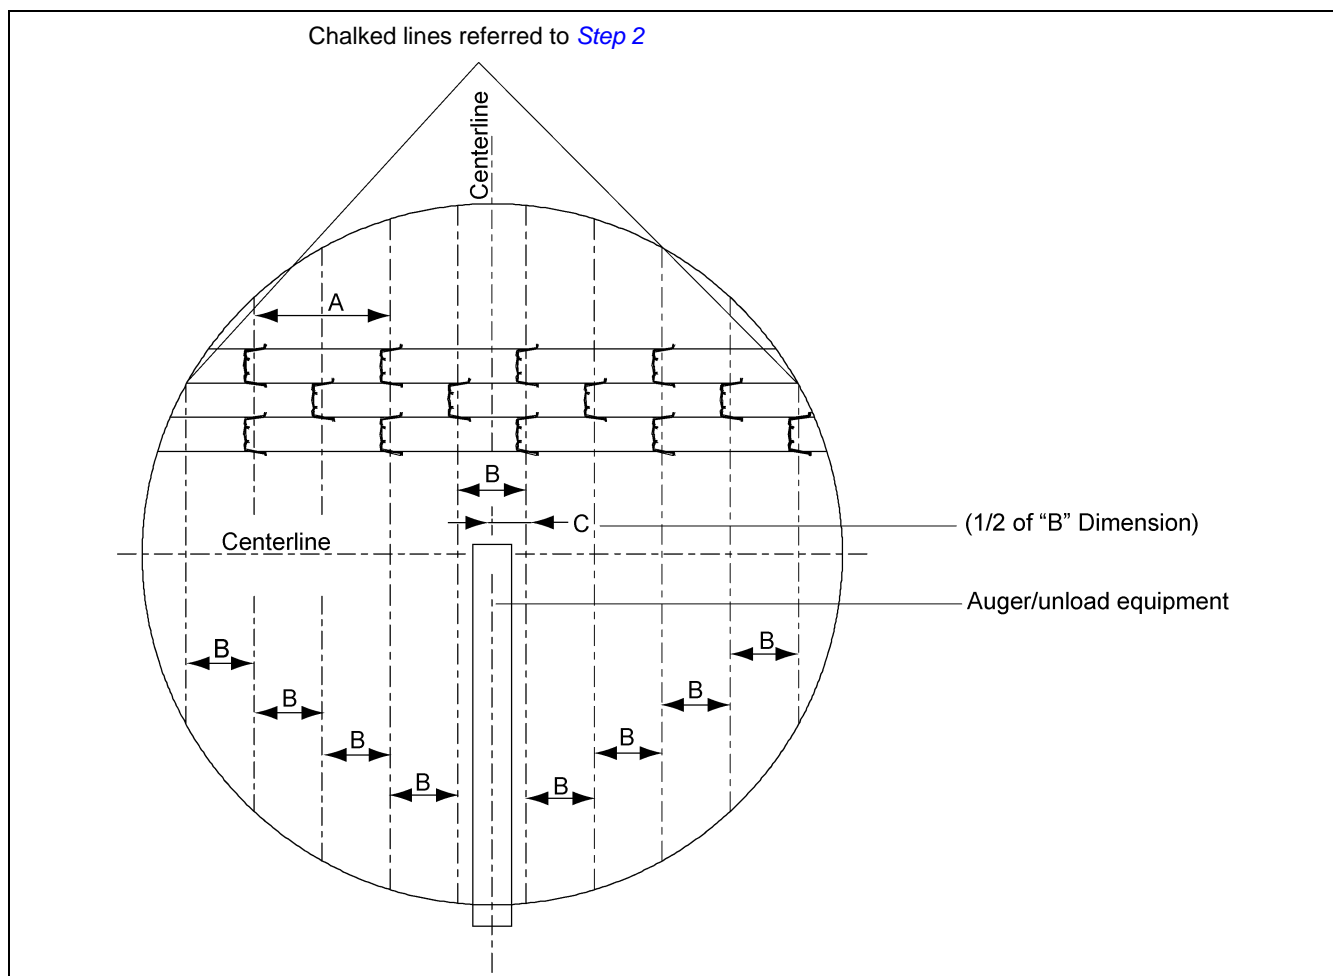

Figure 4B
Using the GSI recommended method for full floor installation should save construction time and eliminate the problem of improper installation which could invalidate your warranty. Note the following dimensions as shown in Figure 4B.
1. Layout centerlines of tank. Make sure one centerline is in line with the direction of the flooring planks while the other centerline is perpendicular with the flooring planks. (See Figure 4B.)
2. From the centerline that is perpendicular to the flooring planks, measure the distance of “C” Dimension and mark a chalk line. (See Figure 4B.)
2. From the line chalked in the previous step, measure over the distance of “B” Dimension and chalk another line. Repeat this procedure across the bin until reaching the wall in both directions. When completed, there should be a set of parallel lines (perpendicular to the floor planks) with “B” Dimension distance between each line. (See Figure 4B.)